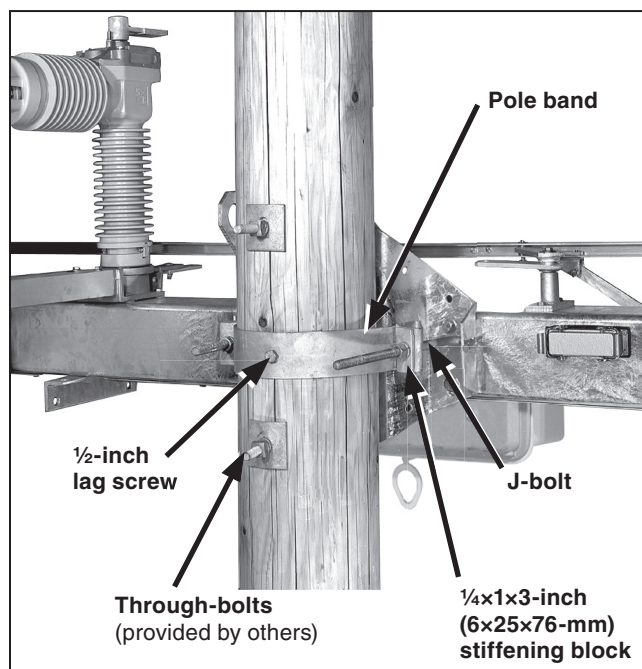

Figure 13. Securing pole band to mounting bracket (upright mounting configuration shown).
STEP 10. Secure a pole band (two furnished) to the extension brackets attached to each mounting bracket, using the J-bolts furnished. Four ¼×1×3-inch (6×25×76-mm) stiffening blocks are furnished to be used behind the pole-band flanges and underneath the J-bolt nuts. Lag each pole band to the back side of the pole through the hole in the center of the band using the ½-inch diameter lag screws provided. See Figure 13. Then, lag each switch mounting bracket to the pole using the four remaining ½-inch diameter lag screws. See Figure 13.